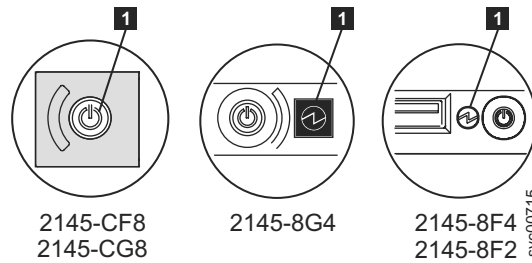

Figure 77. Power LED on the SAN Volume Controller models 2145-CG8, 2145-CF8, 2145-8G4, and 2145-8F4 or 2145-8F2 operator-information panel
**Is the power LED on the operator-information panel continuously illuminated?** Figure 77 on page 239 shows the location of the power LED **1** on the operator-information panel.